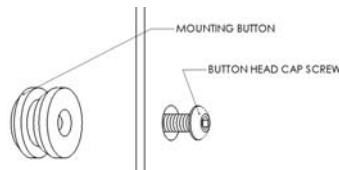
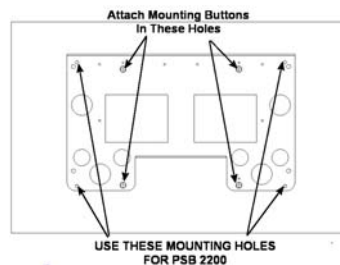
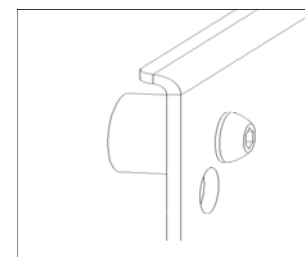

Figure 2
Figure 3
Figure 4
1. Using a 10-24 button head cap screw inserted in the non-chamfered hole at a spacing of 14", secure mounting button, with chamfered hole of mounting button (larger surface) facing bracket, to bracket (four places) (see Figure 2 & Figure 3).
2. Remove factory installed mounting buttons if they are installed on plasma. Place 4 Nylon spacers on plasma over mounting threads in plasma (see Figure 3 & Figure 4).
3. Place plasma bracket on plasma with bent lip towards the plasma (see Figure 3 & Figure 4).